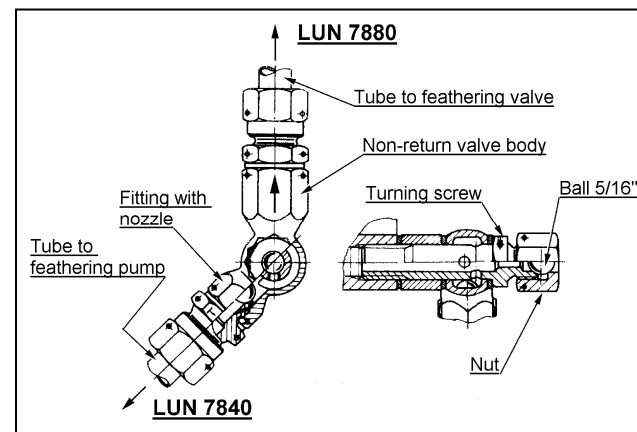

FIGURE 12-8
NOTE: Secure turning bolt, tube cap nut, sockets and closing nut (figure 12-8) after tubing installation.
- (21) If hydraulic valve LUN7880 and auxiliary pump LUN7840 are installed, follow this procedure (refer to figure 12-8):
NOTE: The turning screw could be modified with the outlet for connecting the manometer as displayed in figure 12-8. This outlet is plugged with the nut and the ball 5/16". Do not remove this nut from the turning screw.